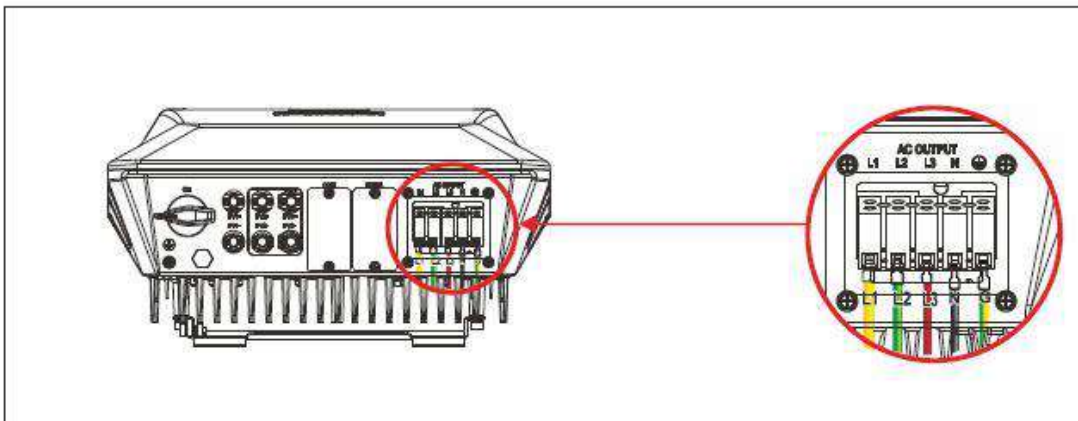

Figure 5.7 Tightening AC cable
Step 4 Connect the AC output cable to L1, L2, L3, N, and E on the AC terminal block, tighten them using screw driver and the required torque is 1.5 N m, shown as in Figure 5.7.